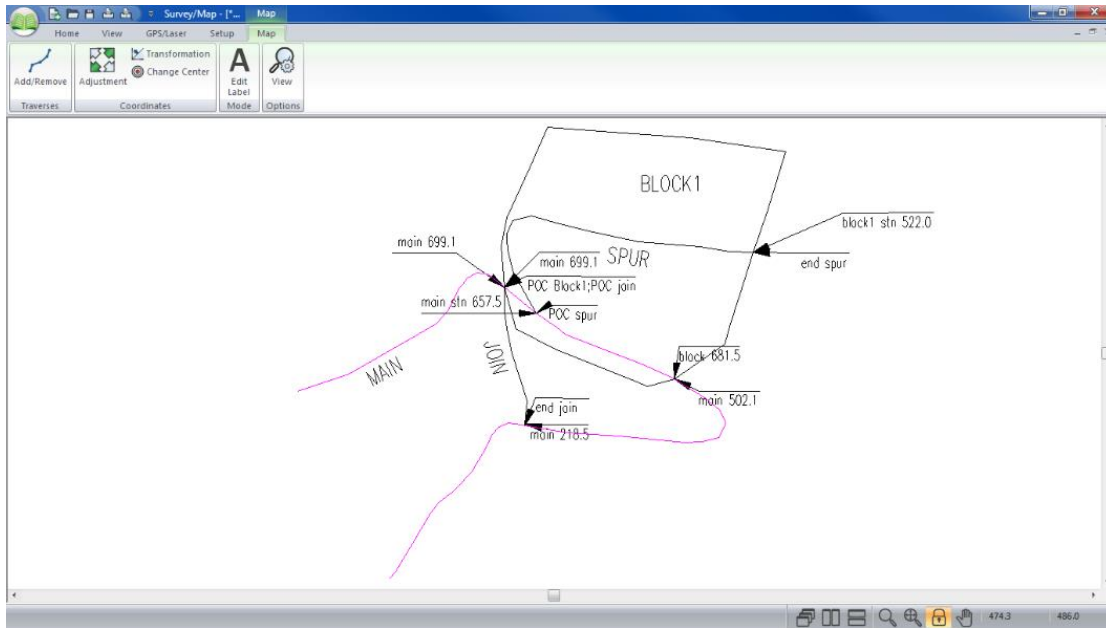

Figure 5-15: *method2.map* after Adjusting *join.tr1*
15. Now press the *Delete* button and press *Apply*. The final adjustment will now look like Figure 5-15, because the previous **main** adjustments in the list now take effect.